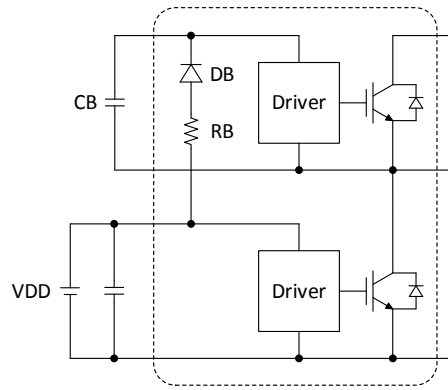

Figure 18. Bootstrap Circuit
VBU, VBV VBW	The VB x pins are internally connected to the positive supply of the high-side drivers. The supply needs to be floating and electrically isolated. The bootstrap circuit shown in Figure 18 forms this power supply individually for every phase. Due to integrated boot resistor and diode (RB & DB) only an external boot capacitor (CB) is required.